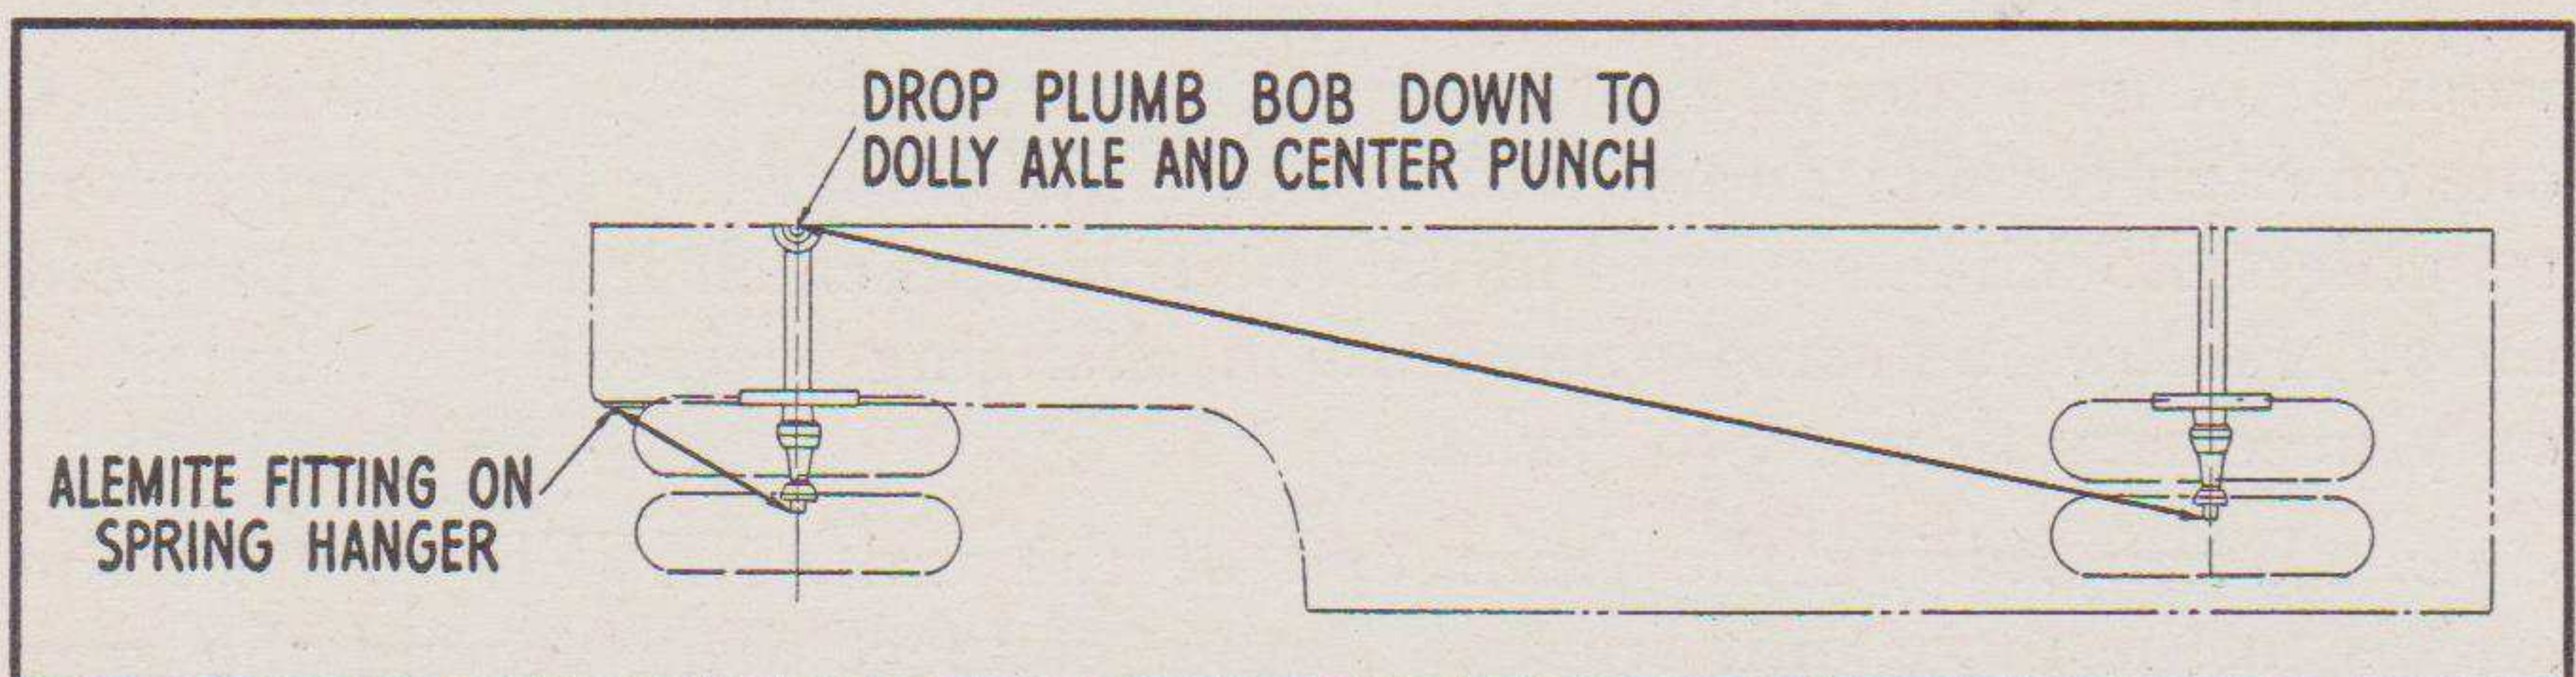

FIGURE 7. FRONT AND REAR AXLE ALIGNMENT
1. **AXLE ALIGNMENT, FRONT.**—*a.* Jack or hoist up front axle, remove the wheels, measure the distance between center of front top shackle Alemite to near edge of axle spindle—the measurement on both sides should be identical. (Refer to Figure 7.)
2. **AXLE ALIGNMENT, REAR** (Refer to Figure 7).—*a.* Jack up the trailer, using two jacks, and remove the wheel and hub assemblies.